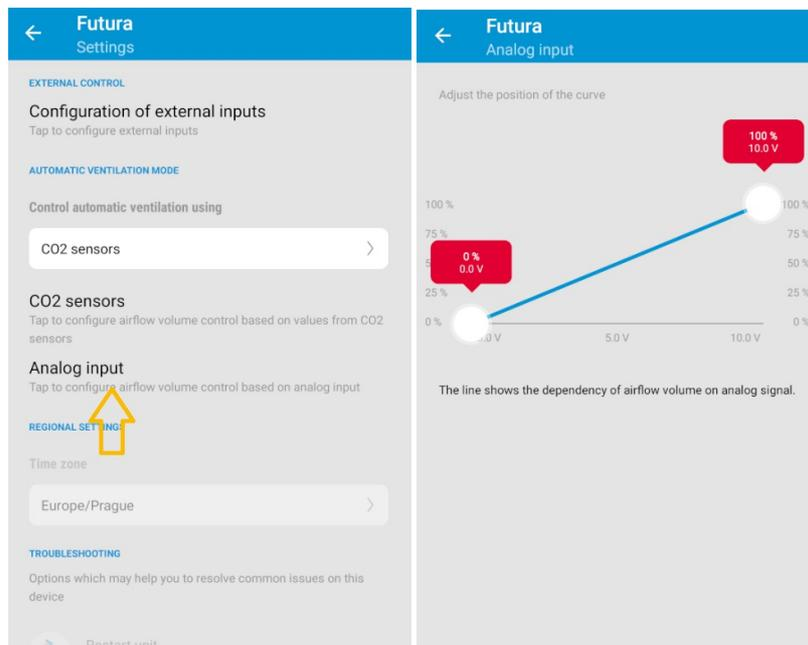

Figure 29 – Digital input configuration, Figure 30 – Analog input curve configuration
- **Analog input IN1 and IN2 (0 - 10 V)** - It is used to control the unit's power in Auto Mode. It is possible to set a linear dependence of the unit's output based on the input voltage. The input voltage ranges from 0 to 10 V. **Note:** Some systems are not able to supply voltage from 0 V. In this case we recommend to set the linear dependence starting at 1 V (see Fig. 29). This setting however will not stop the system entirely! The minimum power level at 0 V of input voltage corresponds to 1% of the power, which is about 65 m³/h for size M and about 110 m³/h for size L.